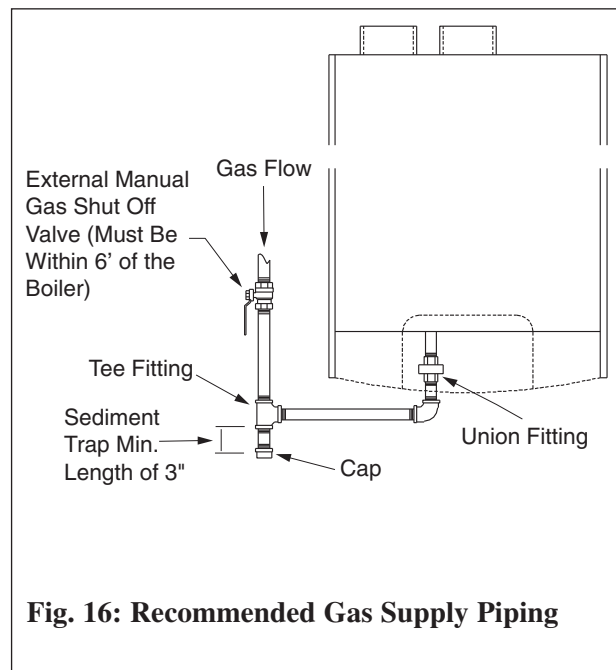

Fig. 16: Recommended Gas Supply Piping
2. Install a manual shutoff valve in the gas supply piping as shown in Fig. 16. For installations in Canada the installer must tag and identify the main shutoff valve.
3. Install a sediment trap (drip leg) on the gas supply line prior to connecting to the PRESTIGE Excellence gas train as shown in Fig. 16.